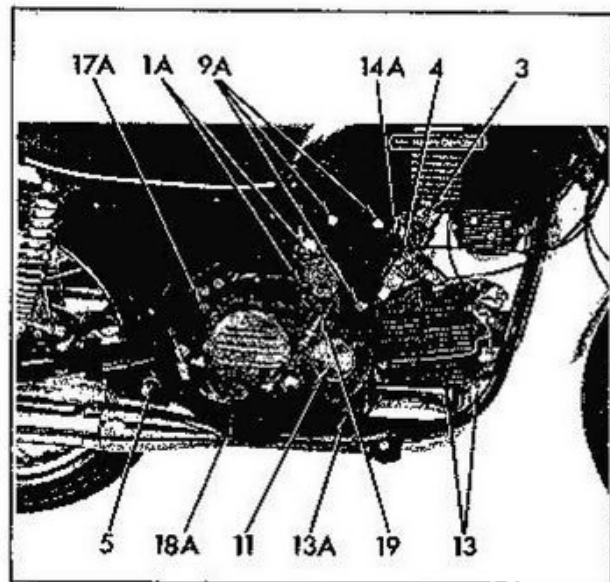

Figure 3A-14A. Right Side View 1973 & Later SS/SX (Stripping For Repair)
**Key for Figures 3A-13, 3A-13A, 3A-14 and 3A-14A**